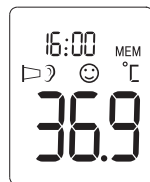

Figure 8
2. The thermometer will automatically memorize the last 10 temperature readings. Each memory also records the measurement date/time/mode icon. Each time the **⏻ Button** is pressed, the screen displays past readings that correspond with a number 1-10. The number 1 reflects the most recent reading, while the number 10 reveals the oldest reading stored in memory. (See Figure 8)